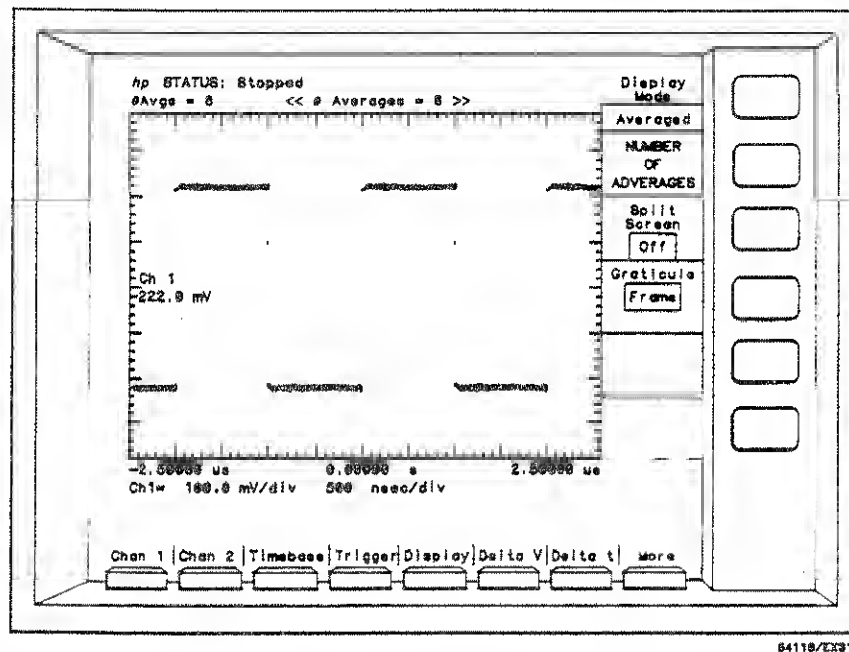
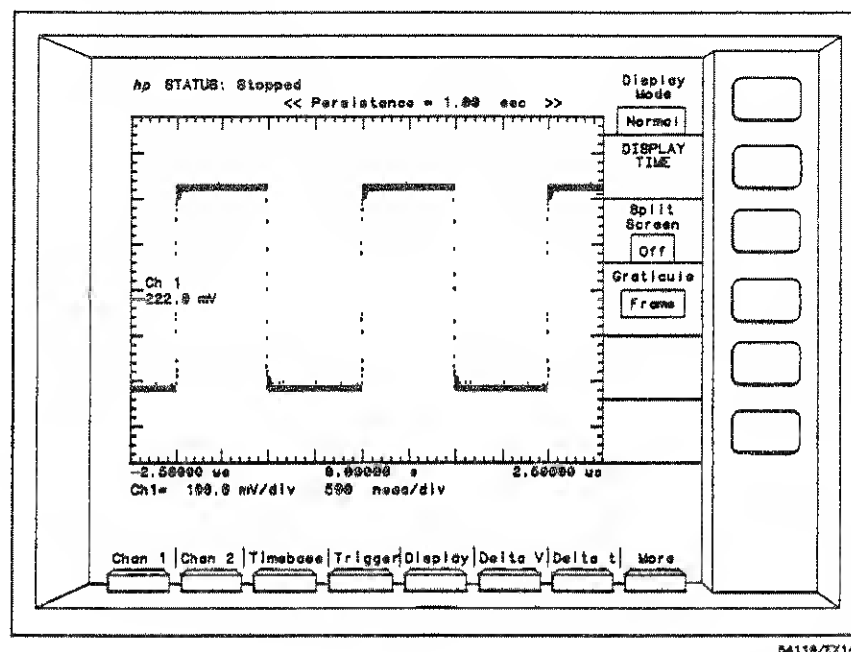

Figure 7-18. Averaged Mode (8 Averages)
Figure 7-19. Normal Mode
5. Set NUMBER OF AVERAGES to 8. (See figure 7-18).
6. Select the normal mode (see figure 7-19). Compare figures 7-18 and 7-19 and notice the reduction of noise on the averaged display. The larger the number of averages the greater the reduction of the displayed noise and the longer it takes to respond to any change in the input signal.